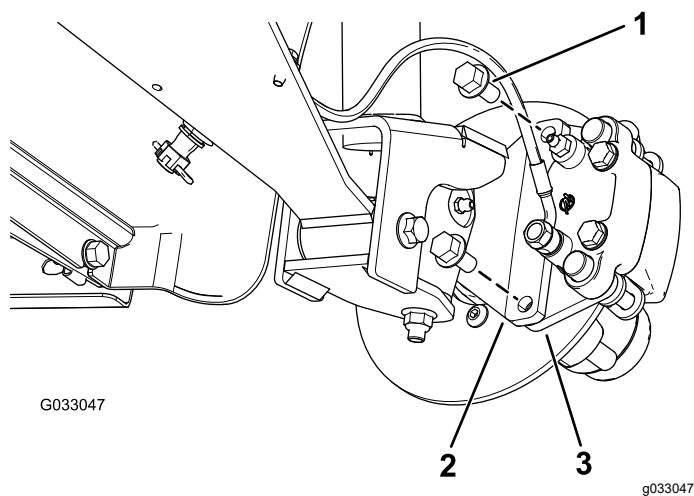
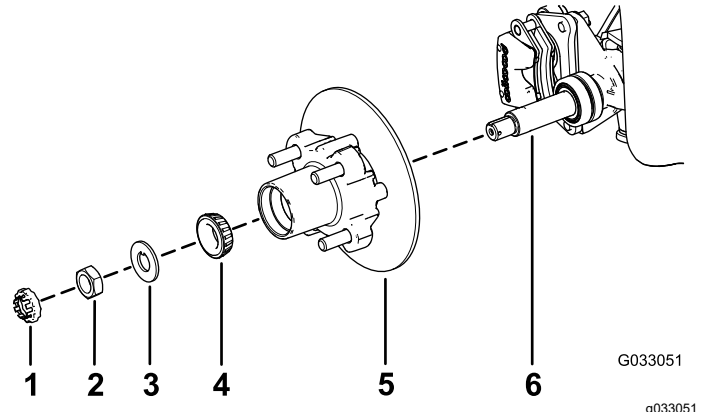

Figure 22
Figure 26
3. Remove the flange-head bolts (3/8 x 3/4 inch) that secure the bracket for the brake assembly to the spindle and separate the brake from the spindle (Figure 22).
1. Apply a light coat of the specified grease to the spindle (Figure 26).
2. Assemble the hub and rotor onto the spindle with the rotor inboard (Figure 26).
3. Assemble the outboard bearing onto the spindle and seat the bearing to the outboard race (Figure 26).
4. Assemble the tab washer onto the spindle (Figure 26).
5. Thread the spindle nut onto the spindle and tighten the nut to 15 N·m (11 ft-lb), while rotating the hub to seat the bearing (Figure 26).
2. Align the brake pads to either side of the rotor (Figure 22) and the holes in the caliper bracket with the holes in the brake mount of the spindle frame (Figure 26).
3. Secure the caliper bracket to the spindle frame (Figure 22) using the 2 flange-head bolts (3/8 x 3/4 inch).